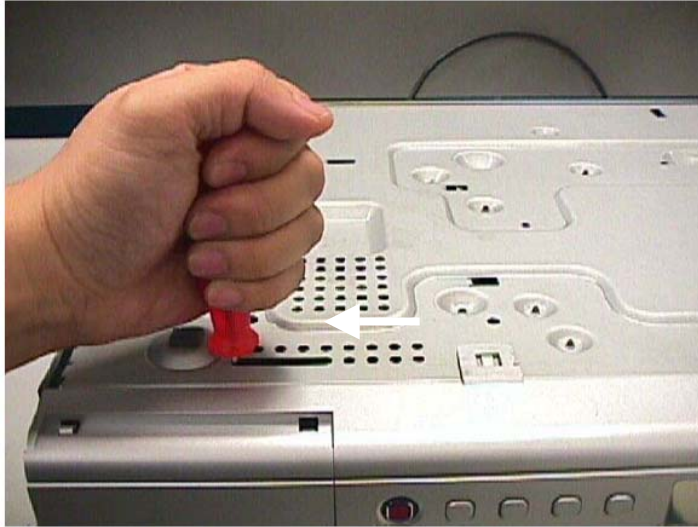

Figure 1- unlock the tray loader
- 1) Insert a screwdriver into the slot provided at the bottom of the set and push in the direction as shown in Figure 1 to unlock before sliding the Tray cover 110 out.